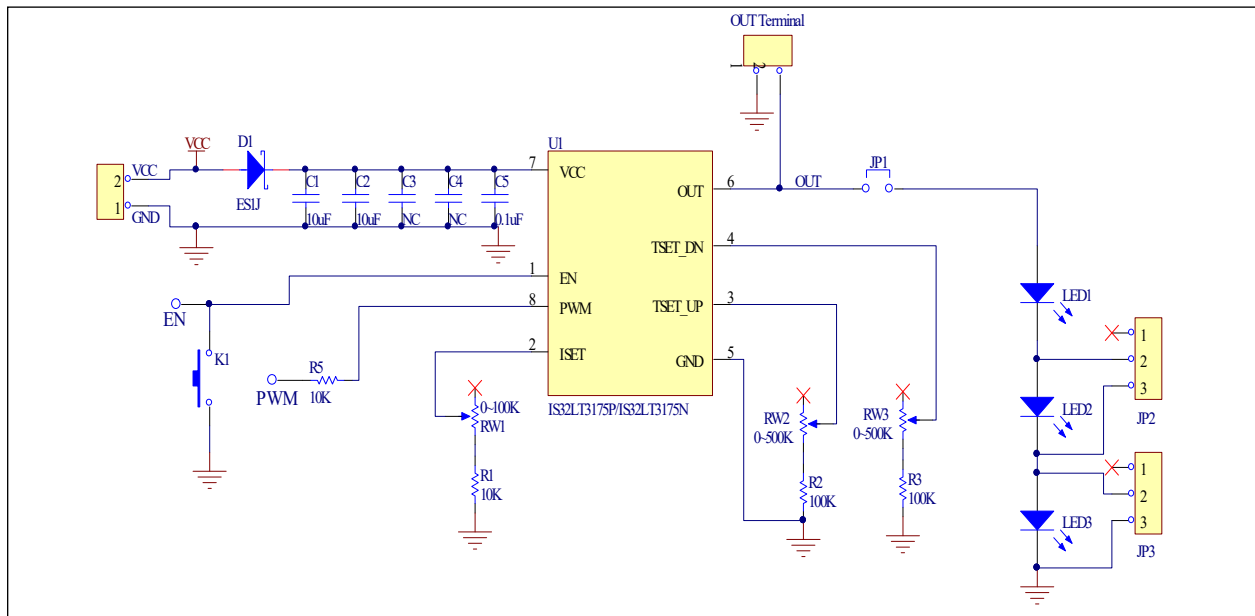

Figure 2 IS32LT3175N/P Application Schematic
decrease the output current and clockwise to increase the output current. The test point ISET can be used to detect the resistor value at the ISET pin. The final resistance can be measured with an ohm meter across ISET and GND pins. Use this measured resistor value to replace the variable resistor RW1 and R1 (see schematic Figure 2).
- 3) The fade in time is adjusted by the variable resistor (RW2). Turn RW2 counter clockwise to decrease fade in time, and clockwise to increase fade in time. Once the desired fade in time is set, measure the resistor value across TSET_UP and GND. Use this measured resistor value to replace the variable resistor RW2 and R2 (see schematic Figure 2).
schematic Figure 2).
Bill of materials, refer to Figure 2 above.